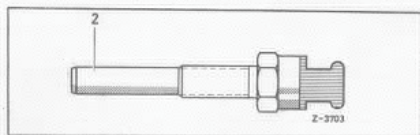

FIG.18
5. As final correction measure, an AIR TEMPERATURE SENSOR (Fig. 18) located in the air filter housing causes a fuel enrichment up to an air temperature of 70 F. . The sensor works on the same variable resistance principle as the water sensor.